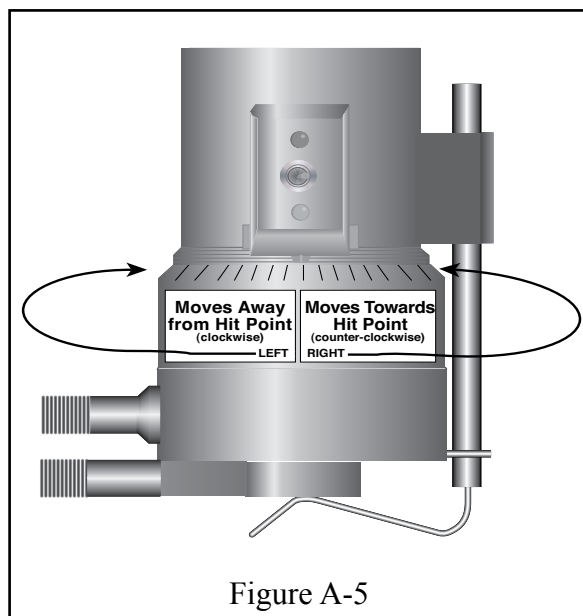

Figure A-5
2. If the contact light (yellow) is illuminated, turn the micrometer adjustment ring clockwise (as you look down on the instrument) until the light is just breaking contact, i.e., flickering (see **Figure A-5**).